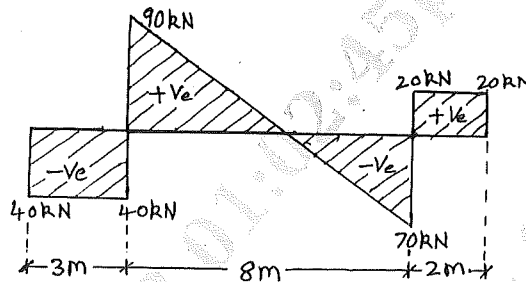

Fig.Q.5(b)
- b. From the given shear force diagram as shown in Fig.Q.5(b). Develop the load intensity diagram and draw the corresponding bending moment diagram indicating the salient features. (10 Marks)